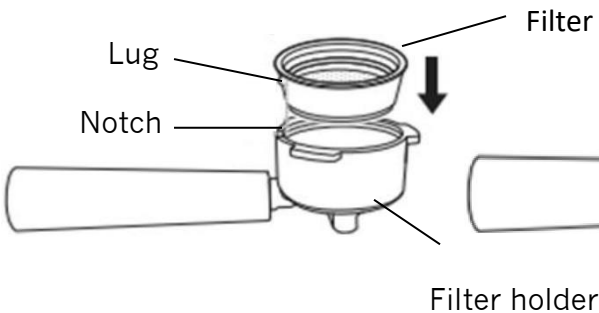

Fig. 1
- 1. Align the small lug on the edge of the filter with the notch on the rim of the filter holder (fig.1).